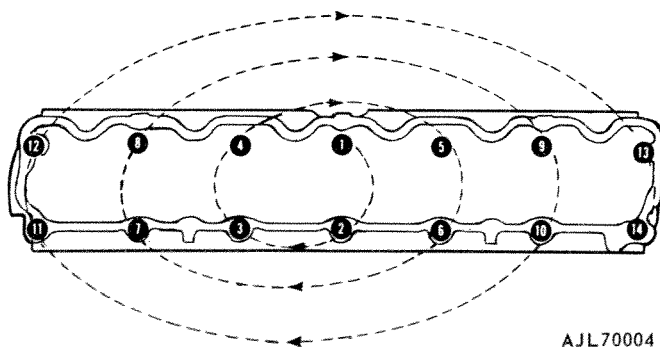

Fig. 1A-14 Cylinder Head Torque Sequence
- (1) If cylinder head is to be replaced and the original valves re-used, remove valves and measure stem diameter. Replace valves if oversize as only standard size valves are to be used with a service replacement head. If original valves are standard size, remove all carbon buildup and reface as outlined under Valve Refacing.
- (2) Install valves in cylinder head using new valve stem oil seals.
- (3) Transfer all attached components from the original head which are not included with replacement head.
- (4) Apply an even coat of Perfect Seal sealing compound or equivalent to both sides of new head gasket and position gasket on block with the word TOP facing upward.
- (5) Install cylinder head. Tighten bolts (in sequence) to 105 foot-pounds torque (fig. 1A-14).